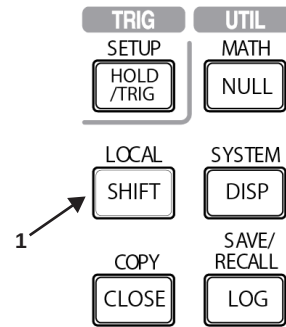

Figure 3.5 TRIG & UTILITY setting part
- 2 Press [DISP] in the red frame of Figure 3.5 when **1** is displayed. The DISPLAY menu opens as shown below. (The TRIG&UTILITY menu is shown in light gray.)
- 1 Press [SHIFT] in Figure 3.5. The blue indicator **SHIFT** lights in the upper right of the screen.